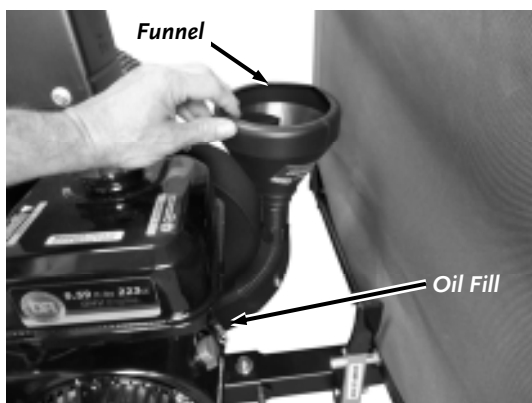

Figure 60
3. Remove the dipstick and add about half the quantity of the oil recommended by the Engine Manufacturer (refer to your Engine Owner's Manual for recommended quantities), and wait one minute for the oil to settle (**Figure 60**).